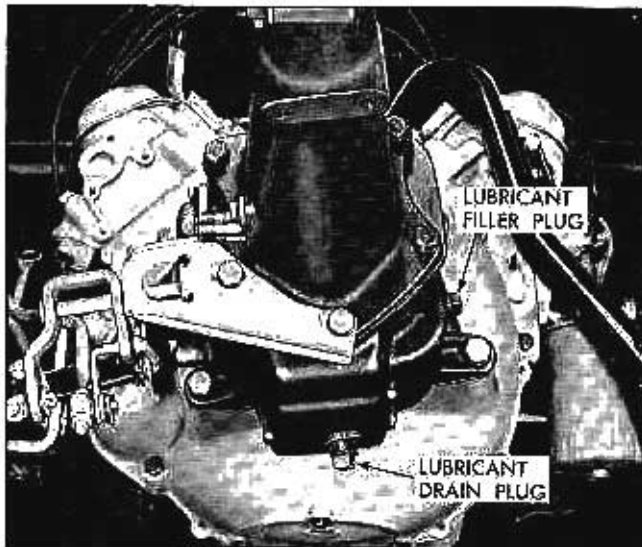

Fig. 7-29 Synchro-Mesh Transmission Drain and Filler Plugs
1. Remove drain plug at bottom of transmission (Fig. 7-29) and drain lubricant.
1. Remove drain plug at bottom of transmission and drain lubricant (Fig. 7-29).